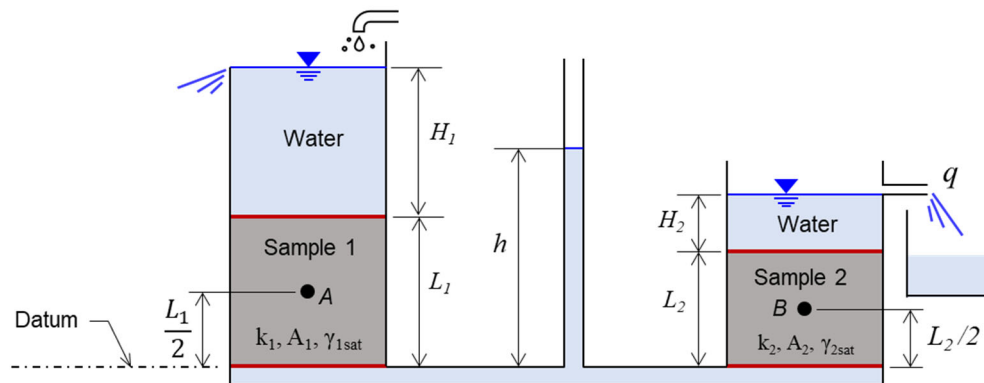

Fig. 4. Setup of the dual-sample permeability test.
- 2) A geo-engineering company invented a new “Dual-Sample Permeability Testing Device” as shown in Fig. 4. In this device, two soil samples are placed at the left and right sides. A screen is placed at top and bottom of the soil samples to retain the soil while allowing water to flow through. For Sample 1 on the left side, it has permeability, cross-sectional area, and length of k_1 , A_1 , L_1 , respectively. For Sample 2 on the right side, the permeability, cross-sectional area, and length are denoted by k_2 , A_2 , L_2 , respectively. For all questions below, use $L_1 = 50$ cm, $A_1 = 1,000$ cm², $L_2 = 40$ cm, $A_2 = 1,000$ cm². The unit weight of water is 9.8 kN/m³. Assume the flow in the soil samples is one-dimensional flow along the vertical direction.